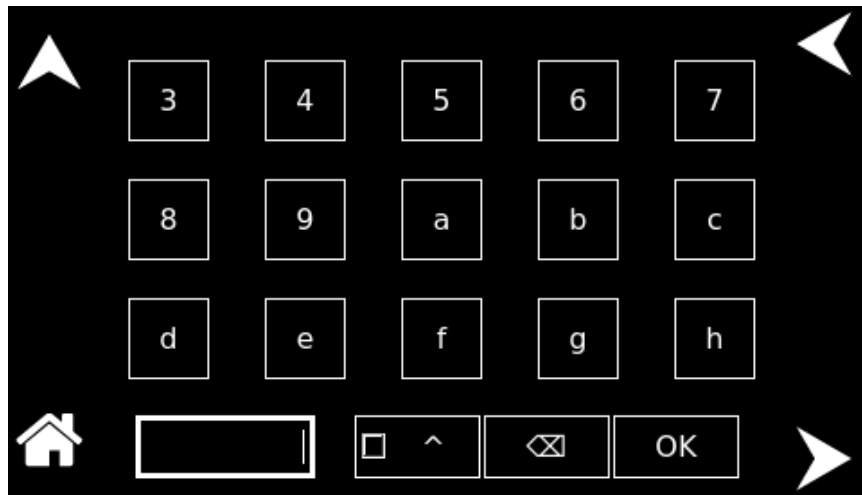

**Figure 12-16. Alpha - numeric keypad**
- An alphanumeric keypad will open, allowing the user to enter a configuration name and click 'OK' to confirm the profile name. Refer to Figure 12-16.